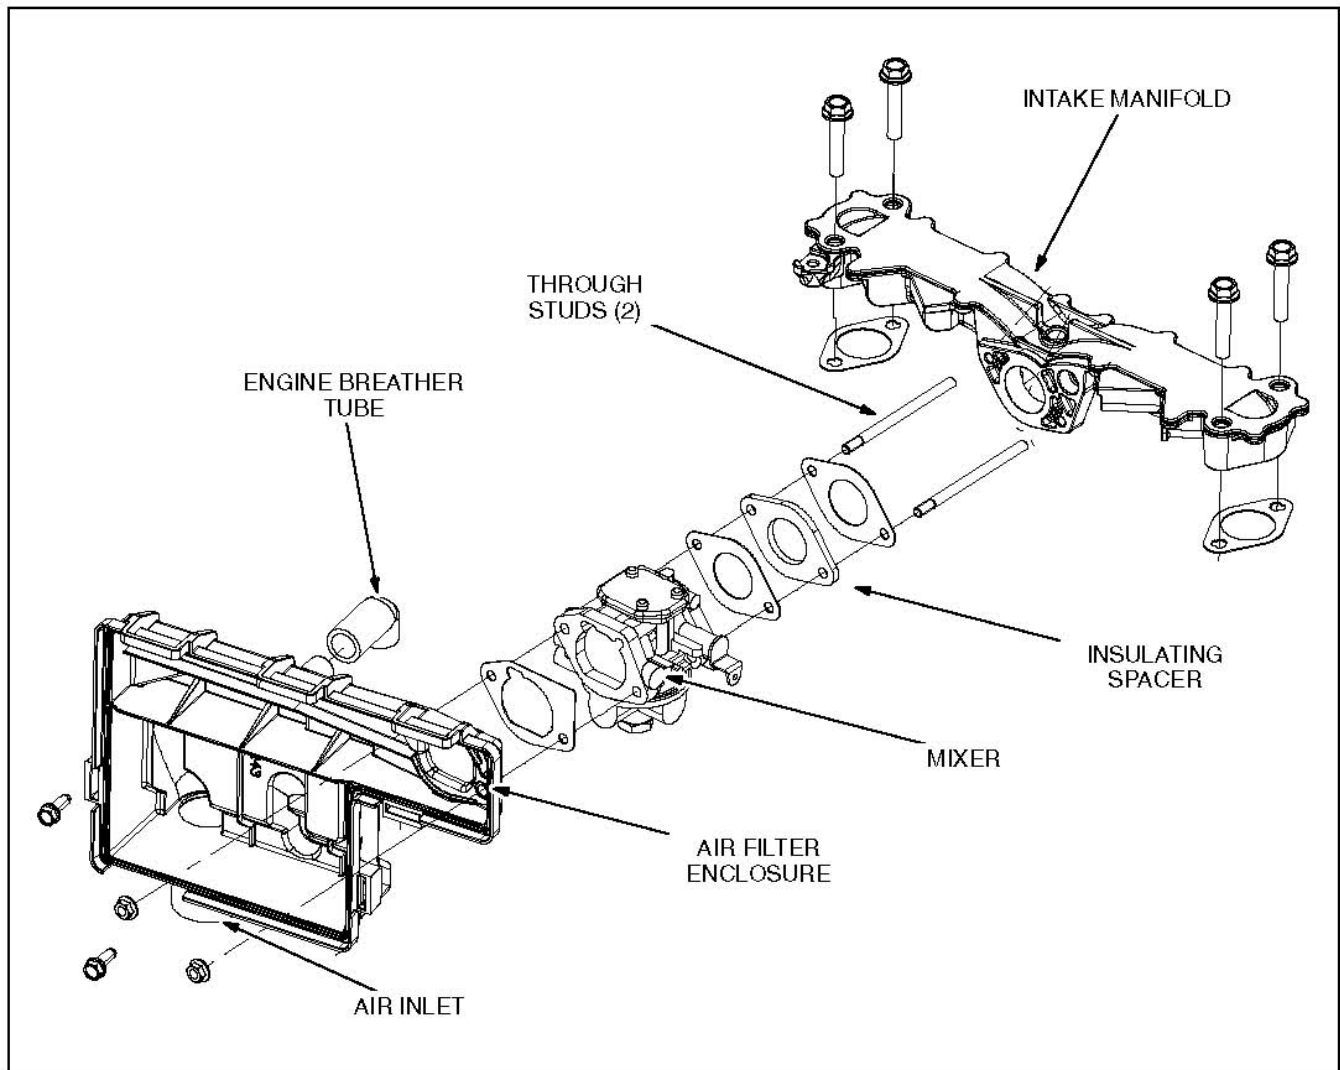
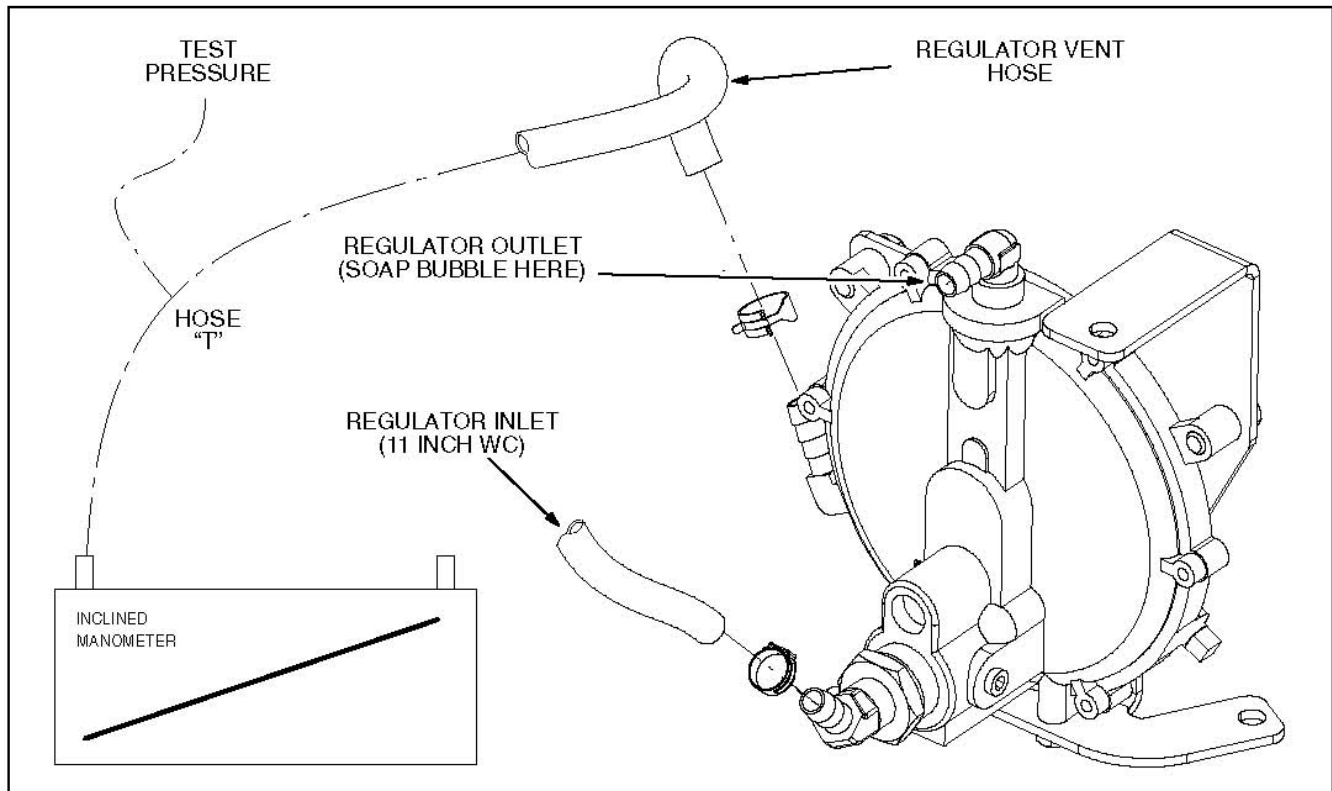
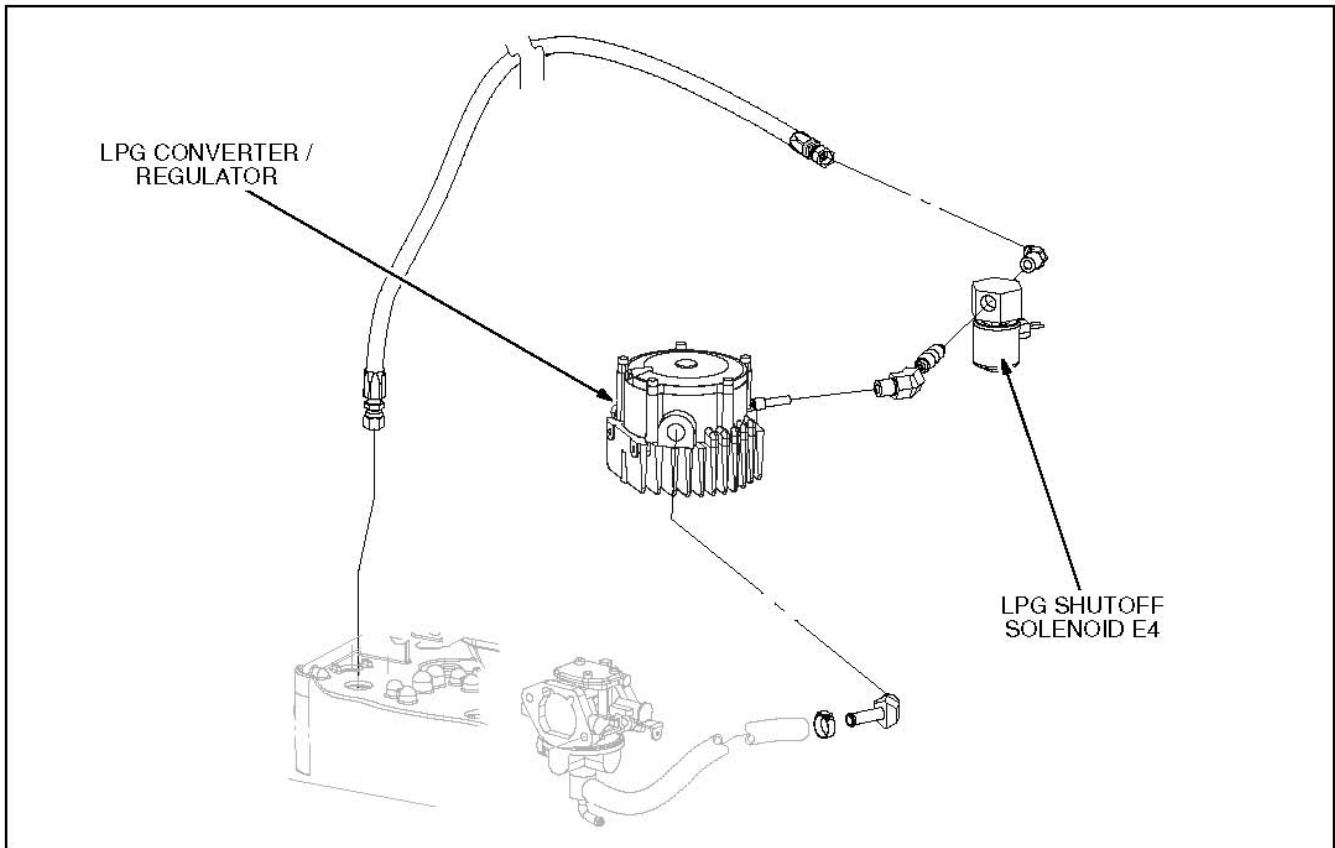

FIGURE 52. LPG MIXER AND INTAKE ASSEMBLY
FIGURE 53. LOW-PRESSURE LPG LOCK-OFF PRESSURE TEST
FIGURE 55. HIGH PRESSURE LPG COMPONENTS
LPG and combustion air are mixed in the proper ratio in the mixer (Figure 52) for good starting and good performance over the entire load range. The demand regulator on Low-Pressure LPG Models (Figure 53) or the converter on High-Pressure LPG Models (Figure 55) meters LPG to the mixer in proportion to venturi vacuum. The mechanical governor (Section 9.4.3) operates the throttle in the mixer to maintain constant engine speed (within a range of 5 %) as load varies.
The mixer can be removed without removing the generator set enclosure. Referring to Figure 52, remove the mixer as follows:
Low-Pressure LPG Models have a demand regulator that meters fuel to the carburetor (Figure 53). It is usually not the cause of fuel system problems. All other possible fuel system problems should first be checked out. Then conduct a lock-off pressure test as follows before replacing a demand regulator.
1. Connect the regulator inlet (Figure 53) to a source of air pressure regulated to 11 inches WC (28 cm).
High-Pressure LPG Models have a converter (liquid to vapor) that also meters fuel to the carburetor (Figure 55). It is usually not the cause of fuel system problems. All other possible fuel system problems should first be checked out before replacing it.